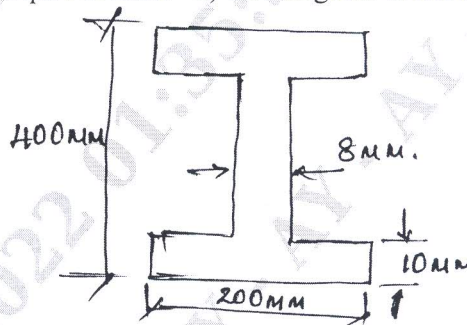

Fig Q7(b)
b. The cross – section of a beam is shown in Fig Q7(b). If permissible stress is 150N/mm^2 , find its moment of resistance. i) Square section ii) Rectangular section.